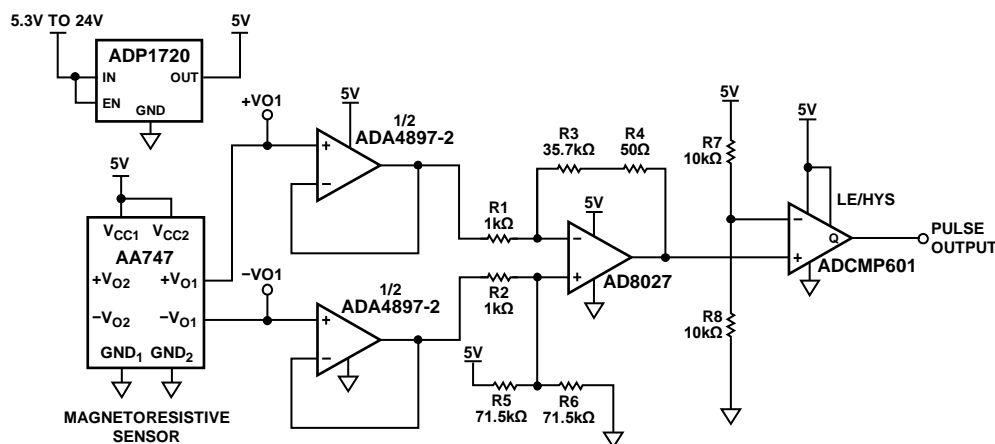

Figure 1. Magnetostrictive Speed Sensing Application Circuit
The circuit shown in Figure 1 is a single-supply, low cost, high-speed magnetostrictive (MR) signal conditioner with a minimum PCB footprint.
The application circuit shown in Figure 1 measures rotational speed using a magnetoresistive sensor and translates it to a pulse output.